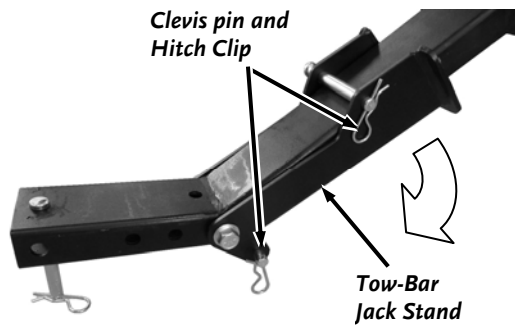

Figure 4
1. Remove Both Hitch Clips and Clevis Pins from the Tow-Bar Jack Stand (Figure 4).